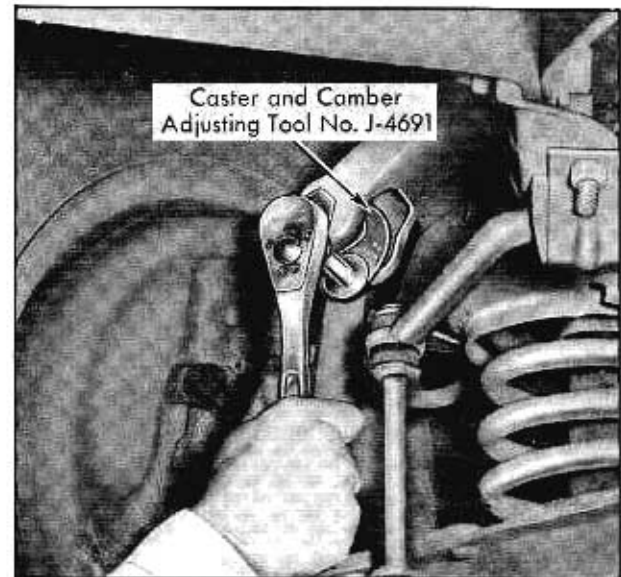

Fig. 6-7 Caster and Camber Adjustment
2. Turn eccentric bushing with Caster and Camber Adjusting Tool No. J-5343 in complete turns only until correct caster angle is obtained, Fig. 6-7. ( $0^{\circ}$  to  $-1^{\circ}$ ,  $-1/2^{\circ}$  preferred) - Adjustment readings (left and right) must be within  $1/2^{\circ}$  or less.
2. Rotate eccentric bushing using Caster and Camber Adjusting Tool No. J-5343 to give correct camber setting at each front wheel, Fig. 6-7. The limits for this adjustment are  $0^{\circ}$  to  $-3/8^{\circ}$  ( $0^{\circ}$  preferred) and not to exceed  $1/2^{\circ}$  difference from one side of car to the other with never more positive camber on the right wheel than the left.